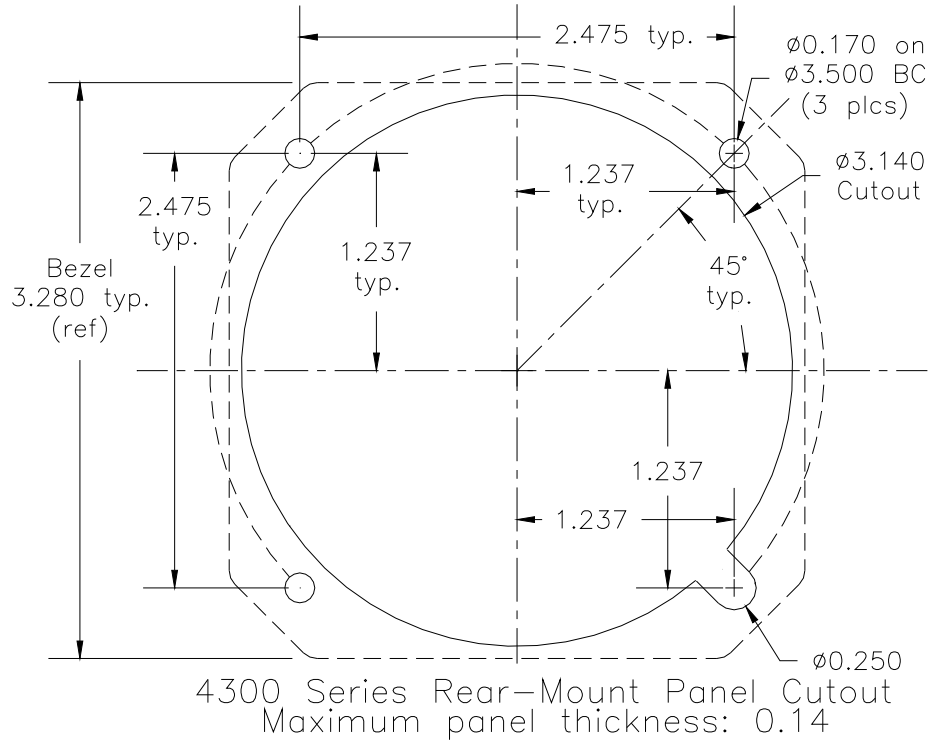

Figure 2.2
- B. Ensure the available instrument panel cutout meets the requirements of the indicator. See Fig. 2.2 for details.